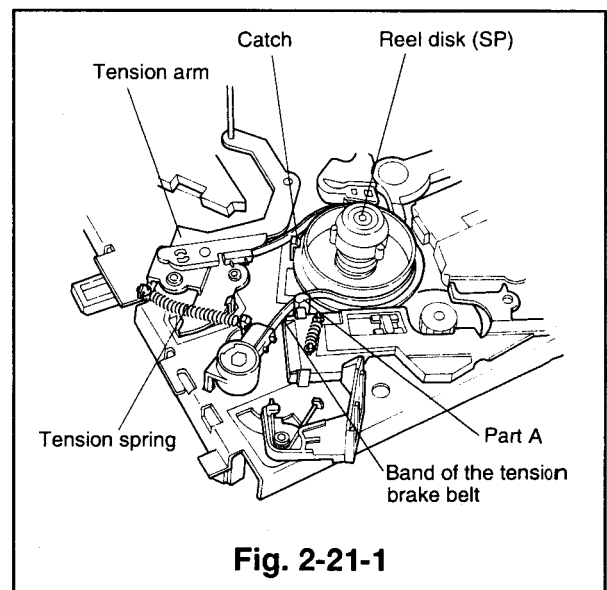
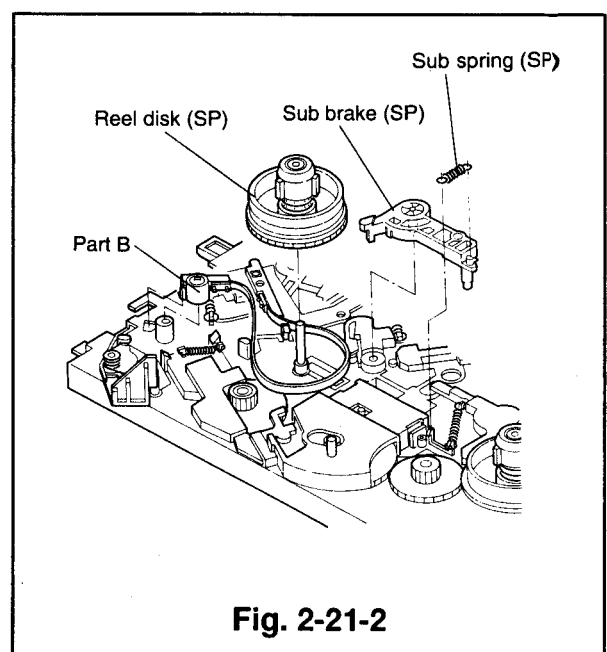

Fig. 2-21-1
Fig. 2-21-2
- ① Remove the cassette housing. (Refer to Para. 2-1 for the removal method.)
- ② Remove the sub brake(SP) and the sub spring(SP). (Refer to Para. 2-14 for the removal method.)
- ③ Raise the part B of the tension brake belt upward to unfasten the belt from the supply reel disk as shown in Fig. 2-21-2. (Refer to Para. 2-19 for the removal method.)
- ④ Unfasten the catch shown in Fig. 2-21-1 and raise the supply reel disk upward to remove it from the shaft.
- ⑤ Fasten the tension brake belt round on the supply reel disk, taking care not to score the belt and route part B of the tension brake belt as shown in Fig. 2-21-2. (Refer to Para. 2-19 for the installation method.) (The band of the tension brake belt must pass outside of the catch shown in Fig. 2-21-1 and inside of the part A.)
- ⑥ Install the sub brake(SP) and the sub spring(SP). (Refer to Para. 2-14 for the installation method.)
- ⑦ Install the cassette housing. (Refer to Para. 2-1 for the installation method.)